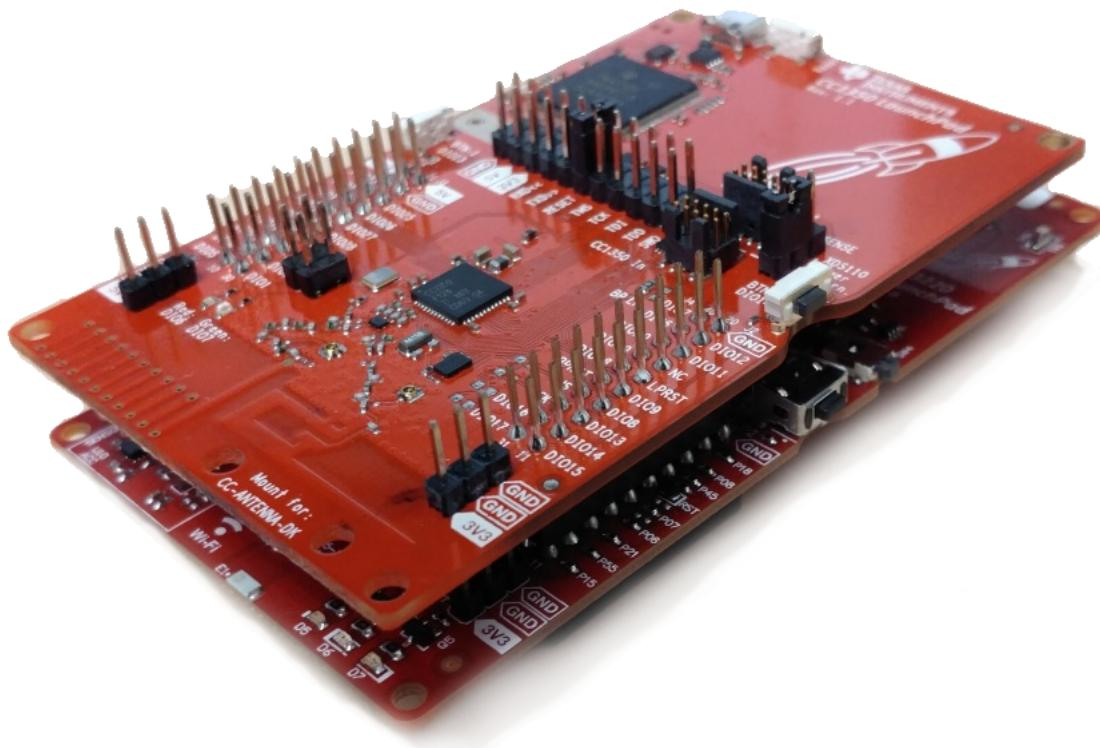

図 27. Stacked CC1350 and CC3220SF LaunchPad™ Development Kits
2. Stack both LaunchPad development kits on top of each other as shown in 図 27.